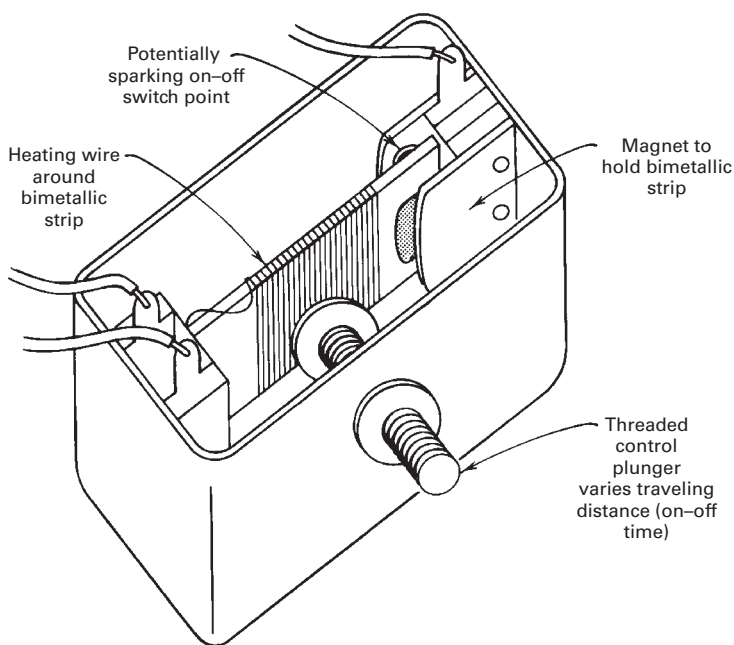

FIGURE 17.7 Inside a mechanical stepless heater.
2. **The mechanical stepless controller.** This appears to be *the* inexpensive replacement for the variable-voltage transformer. Inside one model, there's a small heating wire wound around a bimetal strip with a magnet at one end (Fig. 17.7). A plunger connected to the dial on the front panel changes the distance between the magnet and a metal plate. When you turn the device on with a heating mantle attached, current goes through the small heating wire and the mantle. The mantle is now on *full blast* (120 V out of 120 V from the electric wall socket)! As the small heating wire warms the bimetal strip, the strip expands, distorts, and finally pulls the magnet from its metal plate, opening the circuit. The mantle now cools rapidly (0 V out of 120 V from the wall socket), along with the bimetal strip. Eventually, the strip cools enough to let the magnet get close to that metal plate, and—CLICK—everything's on full tilt again.